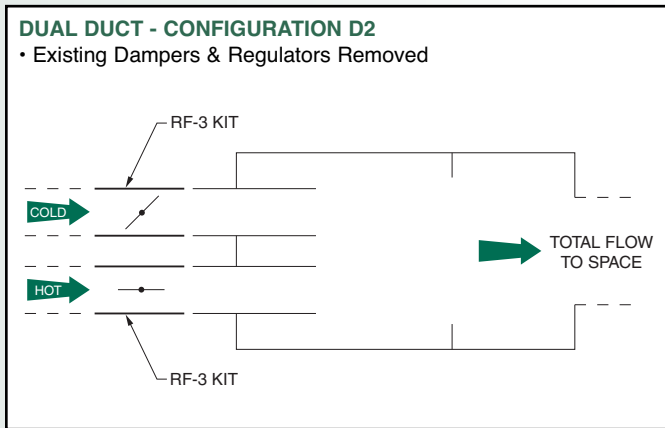

Figure 5
A constant volume dual duct air terminal is upgraded with (2) RF-3 retrofit kits as shown in figure 5: